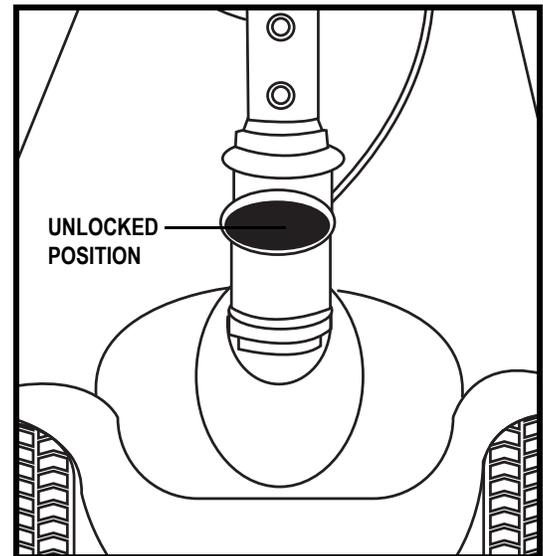

Figure 22. Tiller Lock Knob (Unlocked)
6. Unlock the front wheel by turning the tiller lock knob 90° anticlockwise. See figure 22.